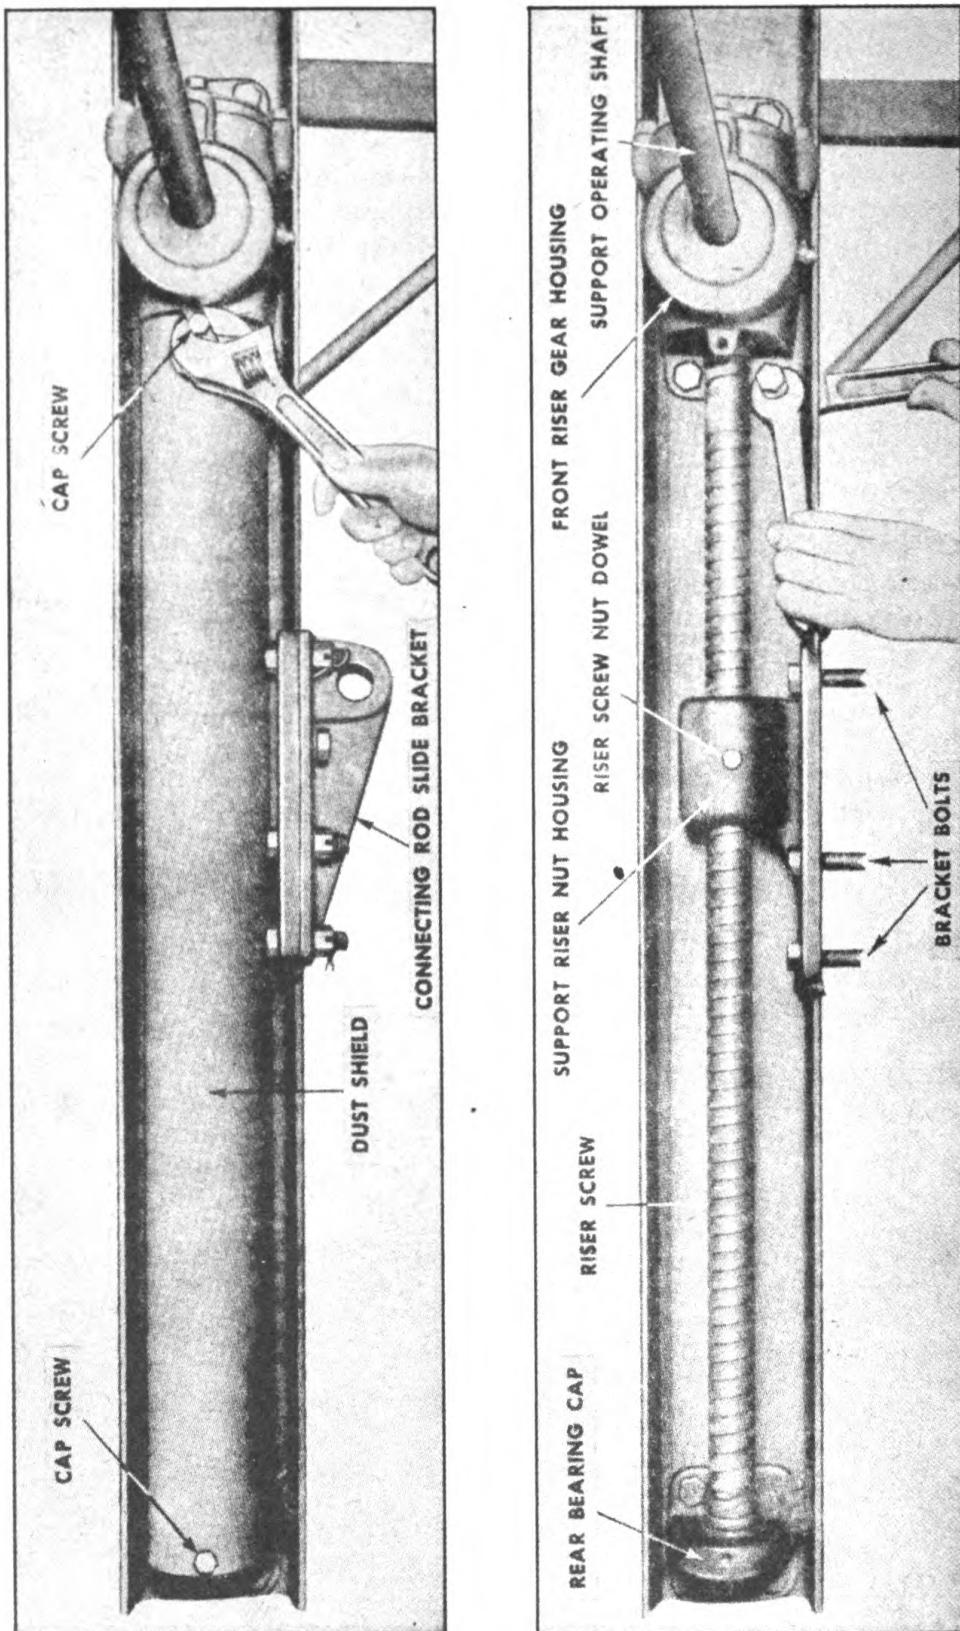
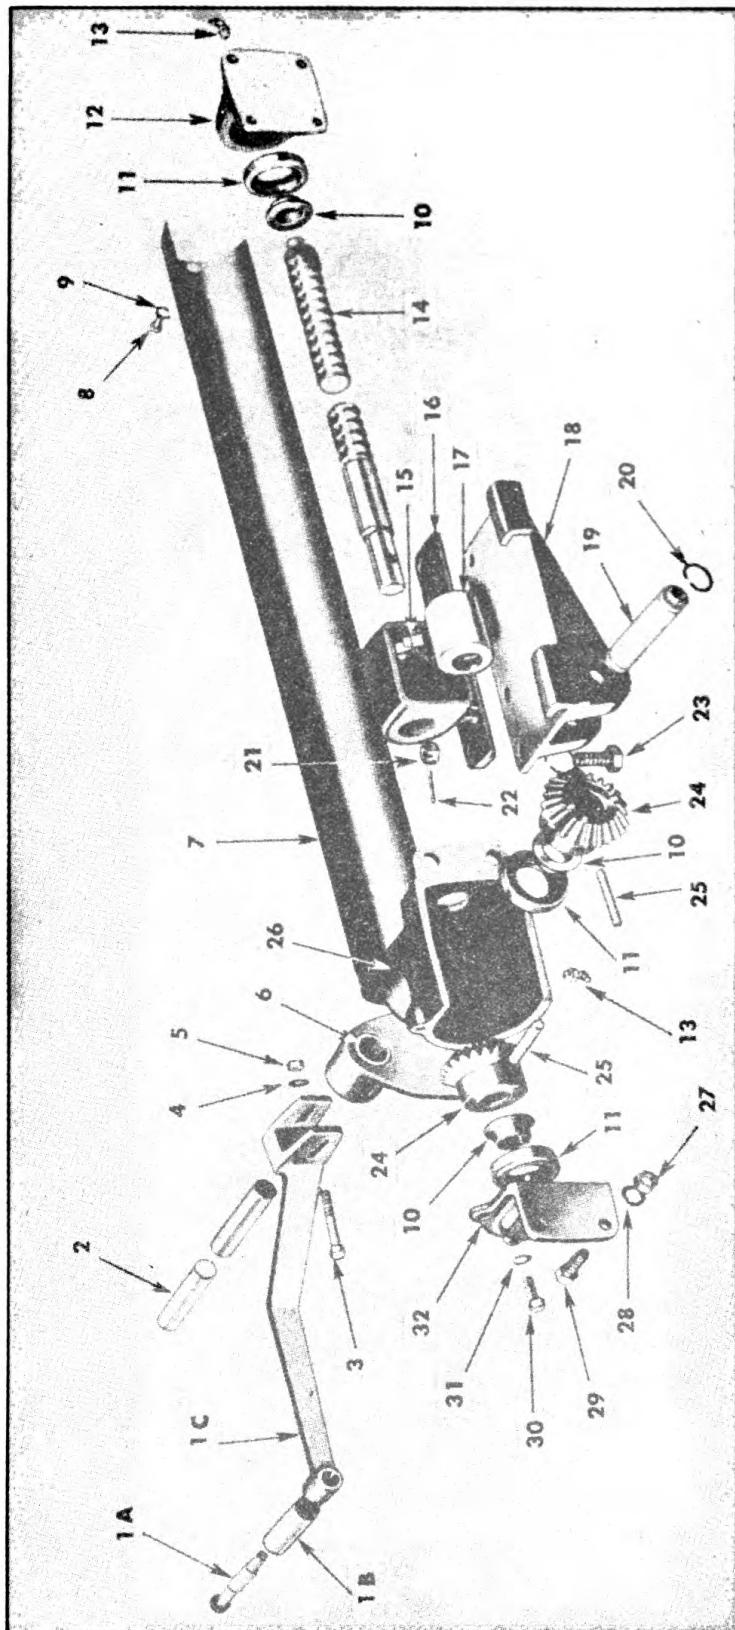

FIGURE 64. REMOVING FRONT RISER GEAR HOUSING
FIGURE 70. SUPPORT OPERATING MECHANISM
- d.* Remove the four bolts holding the gear housing to the I-beam (Figure 64).
(7) Remove the four bolts holding gear housing to I-beam (Figure 64).
(8) Lift complete assembly off I-beam.
(9) Remove the four bolts holding rear bearing cap to I-beam (Figure 64).
b. *Replacement*.—(1) Replacement procedure is in reverse of removal procedure.
(2) NOTE: Before mounting assembly to I-beam fill gear housing with a light grade of chassis lubricant.
c. *Disassembly* (Figure 70).—(1) Turn riser screw nut housing (16) off riser screw (14).
(2) Remove the three cap screws (30) holding front bearing cap (32) to gear housing (26).
(3) Tap bearing cup off riser screw and pull riser screw out of gear housing.
(4) Pull gear housing off operating shaft (2).
(5) Each gear (24) is held to riser screw (14) and operating shaft (2) by a 3/8" drive pin (25).
(6) To remove gears simply drive out the drive pins using a long tapered punch and a hammer.
*d. Reassembly (Figure 70).—*(1) Insert the operating shaft (2) into the small hole in the gear housing (26).
(2) Place bearing (11) over end of operating shaft next to gear housing. (Have concave side of bearing out towards shaft end.)
(3) Place sleeve (10) next to bearing with the larger surface toward shaft end.
(4) Install gear (24) over shaft end, using drive pin (25).
(5) Install gear (24) over end of riser screw (17) using drive pin (25).
(6) Place gear end of riser screw in gear housing.
(7) Place bearing sleeve (10) over end of riser screw with the larger surface next to gear.
(8) Place bearing (11) with the concave surface over bearing sleeve.
(9) Place bearing cap (32) over bearing.
(10) Fasten bearing cap to gear housing (26) using the three 3/8" cap screws and lockwashers (30) and (31).
(11) Bolt rear bearing cap (12) to I-beam using the four 1/2" bolts.